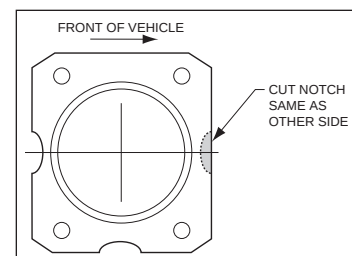

Figure 3.
- Minor modification to the axle flange may be required, see text and figure 3 on page 3.
Axle housing flange may need to be modified by grinding. A relief, the same dimension as the OEM relief at the rear of the housing must be present at the front (of vehicle) side of the housing flange, see Figure 3. This is necessary in order to reinstall the OE wheel speed sensor onto the new backing plate assembly.